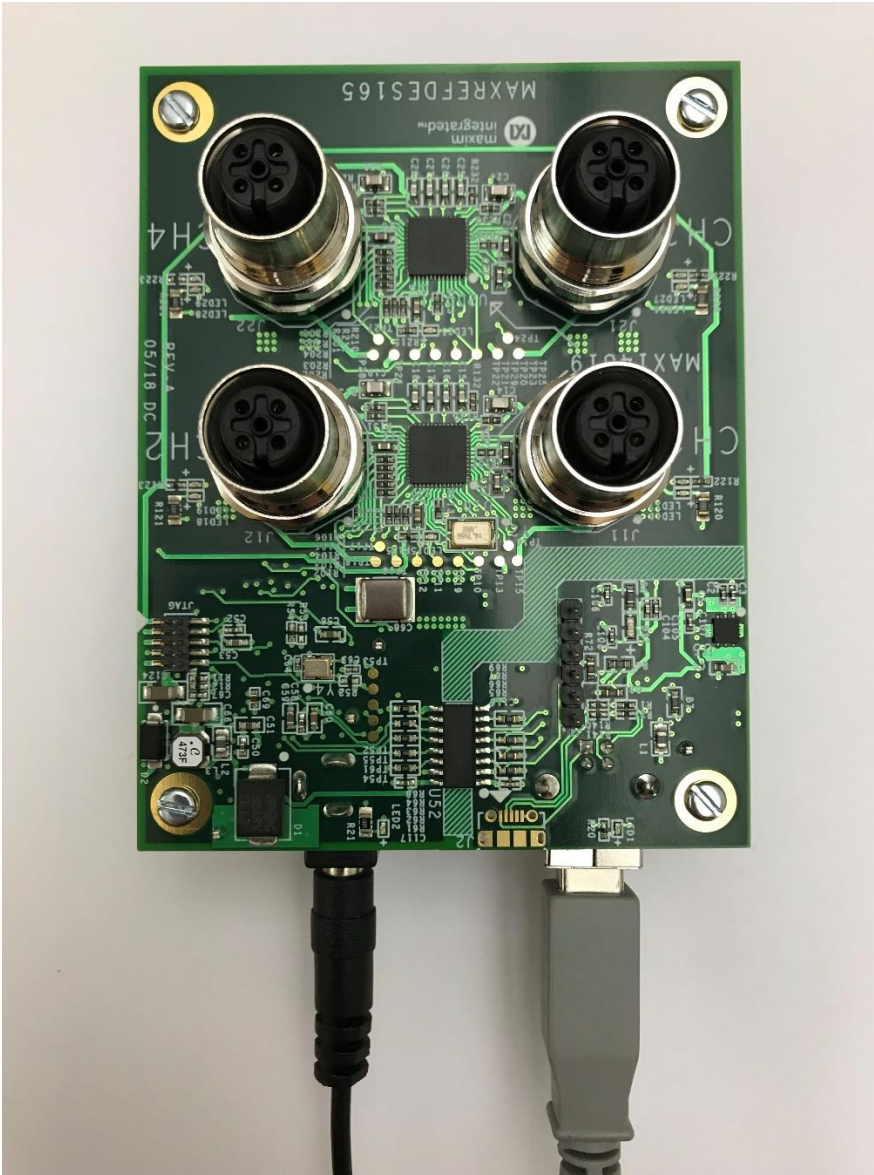

Figure 3. Connect the Power and USB cables to MAXREFDES165# and then connect it to the PC.
4. Connect the 24V Power-Supply, then connect the USB cable from the PC to the MAXREFDES165# as shown in Figure 3.